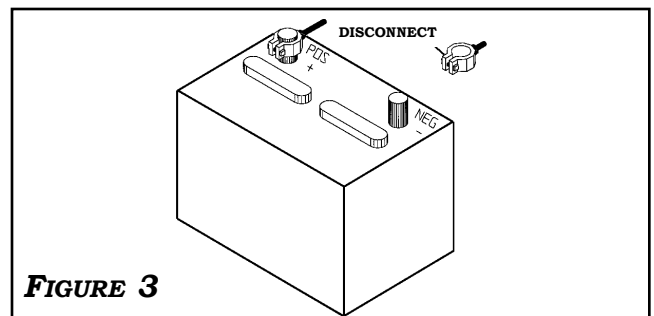

FIGURE 3
REMOVE THE NEGATIVE BATTERY CABLE BEFORE INSTALLING THE CRUISE CONTROL COMPONENTS FOR SAFETY PRECAUTIONS. **FIGURE 3**
1. RECONNECT NEGATIVE BATTERY CABLE AND TORQUE TO **35 IN LBS.** **FIGURE 3**